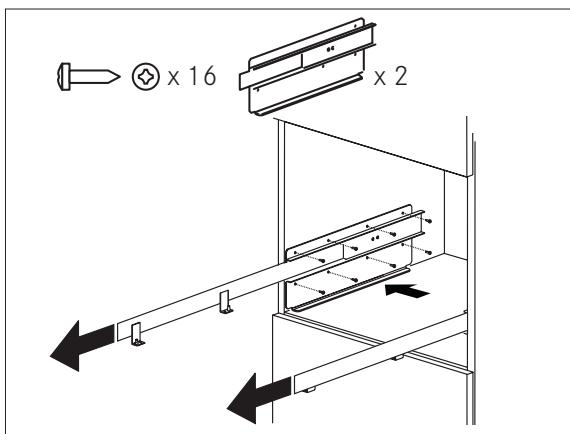

Fig. 4
- ▶ Position the rails on the sides of the cabinet as shown in the Figure 4. Fix with the screws supplied, then extract them completely. If the coffee maker is installed over a warmer drawer, use the top surface of this as a reference to position the rails. In this case, there will be no surface to rest the rails on.